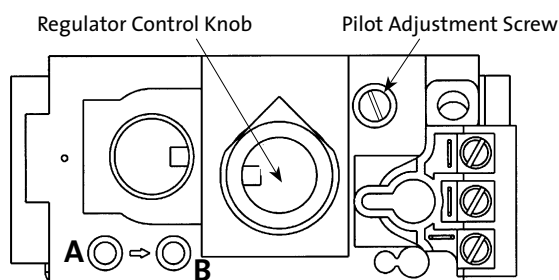

Figure 37.
**Pressure Test:** Attach a manometer to the appropriate test point on the valve. See fig. 37. The gauge connections are located on the front of the valve. Connections are identified by: